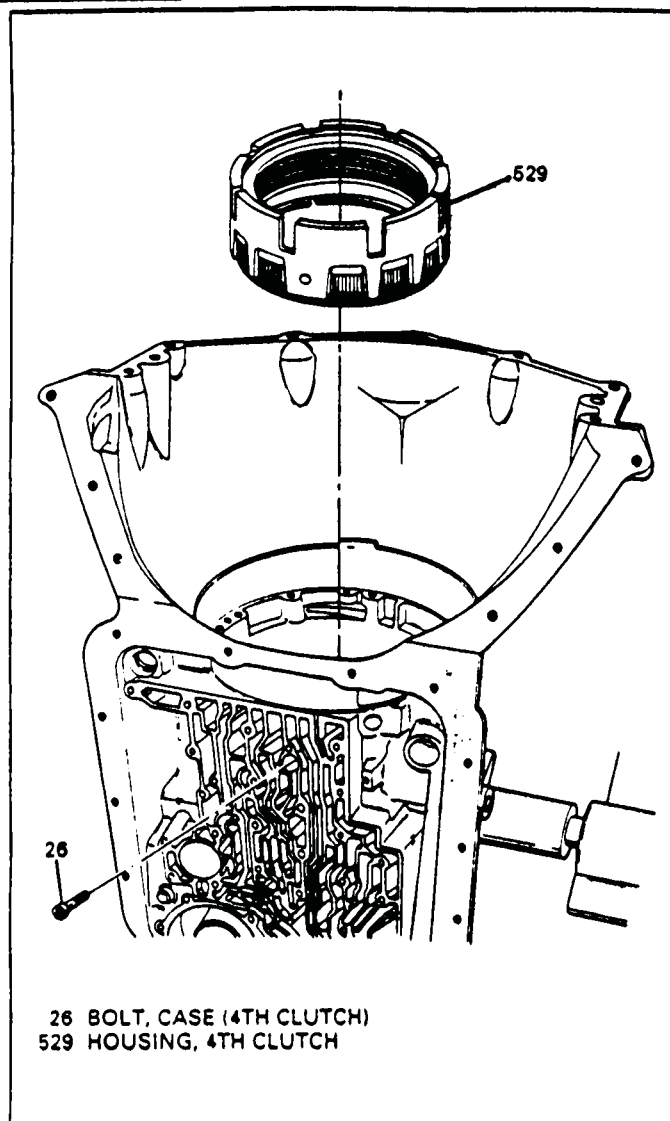

Figure 49
2. Insure that the 4th clutch retaining bolt has been removed (Figure 49).
3. Remove the complete 4th clutch assembly as shown in Figure 49.